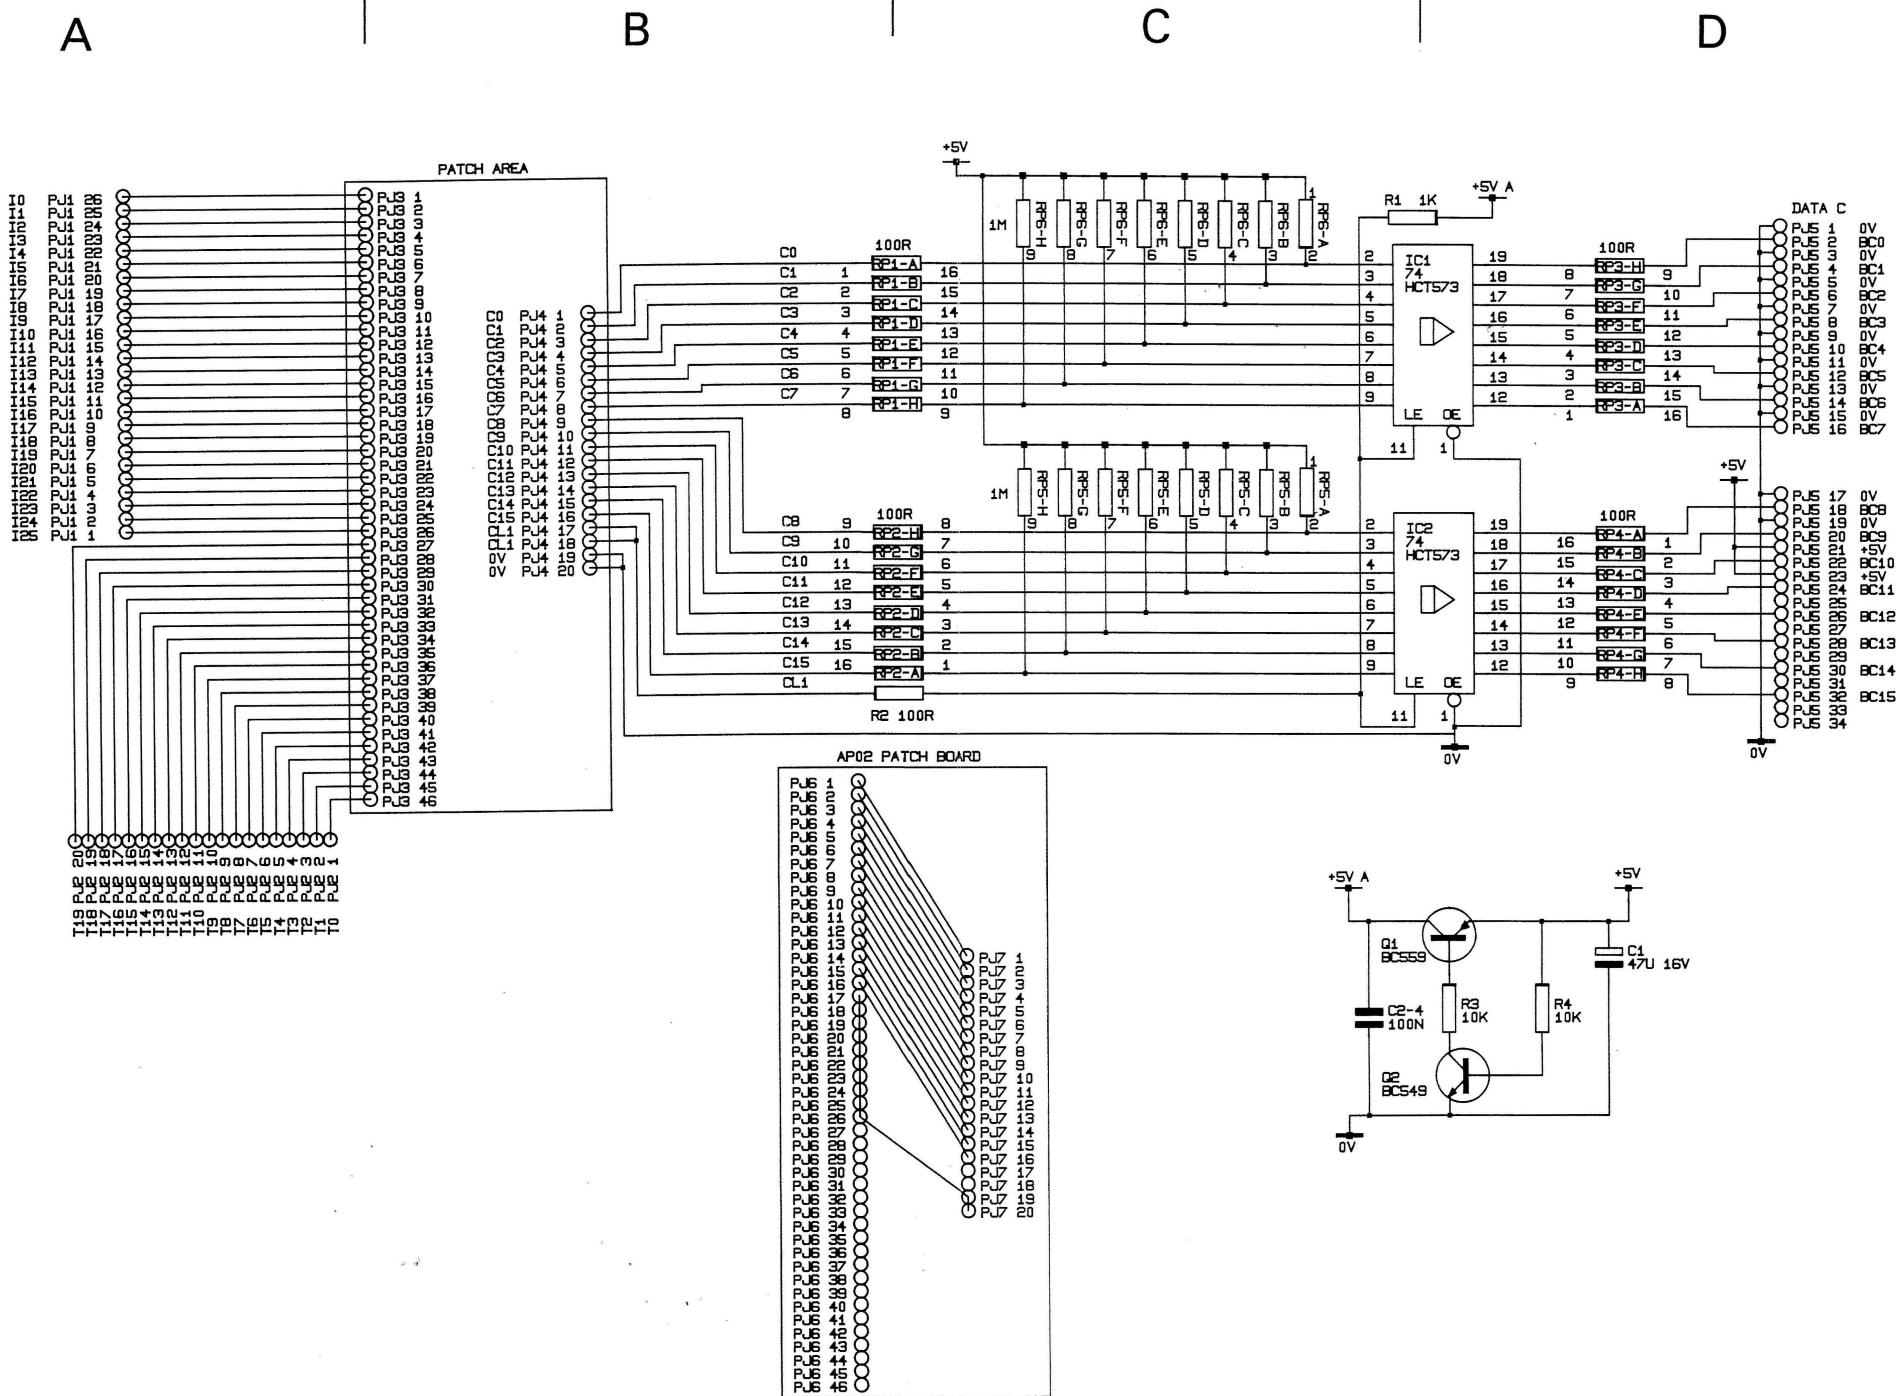

Fig 5 16 CHANNEL BOARD TO CONVERT AP01 TO AP02 (48-CHANNEL DATA AND CLOCK PODS)
- Fig 5 16 CHANNEL BOARD TO CONVERT AP01 TO AP02 (48-CHANNEL DATA AND CLOCK PODS)